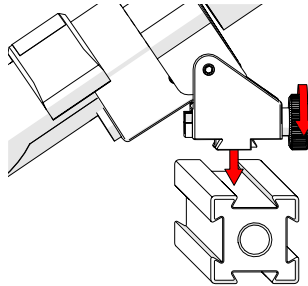

Fig. 177 - Mount on frame bar
1. Loosen the battery powered optical guide knob and mount the guide to the frame bar (*Fig. 177*).